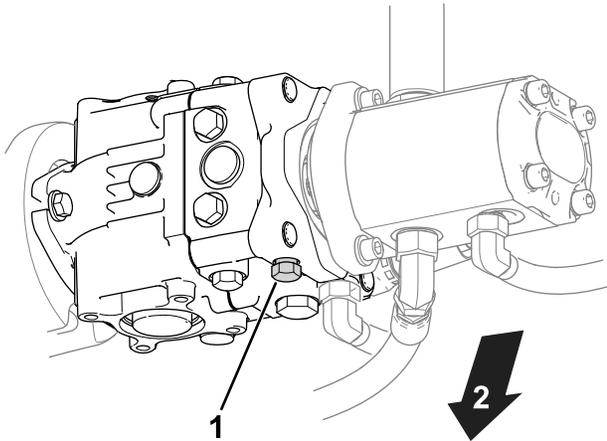

Figure 34
1. Locate the bypass valve on the pump (Figure 34).